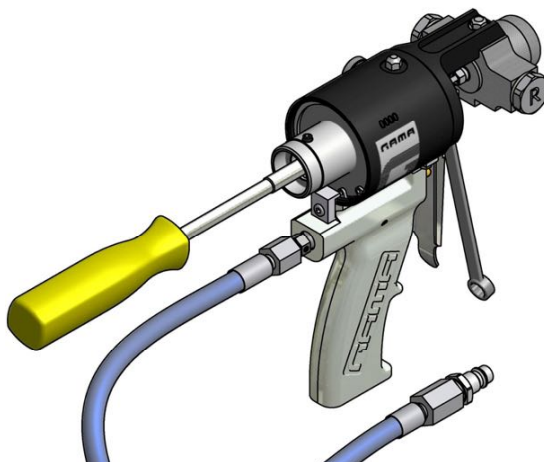
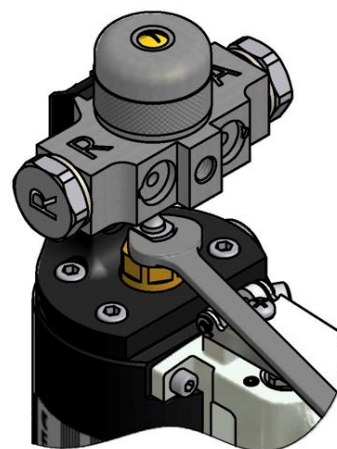

Figure. 14
Figure. 15
4. Insert the end of the socket wrench into the hexagon of the needle and insert a socket in the hexagon of the plunger shaft to prevent it from turning (see **Figure. 14** and **Figure. 15**). Turn anti-clockwise until the needle is completely removed from its housing.
16. Insert the tip of the socket wrench into the hexagon of the nut and insert a socket in the hexagon of the plunger shaft to prevent it from turning. Turn anti-clockwise until the needle is completely unscrewed from its housing (see **Figure. 14** and **Figure. 15** page 13).